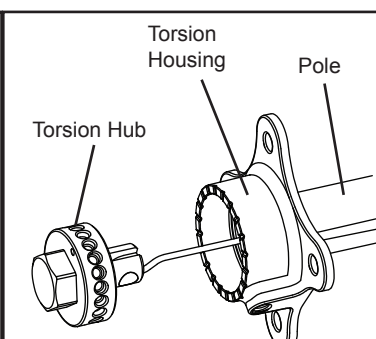

Fig. 10
16. Insert assembled Torsion Hub with Torsion Spring into Torsion Housing and Pole until Torsion Hub is flush with Torsion Housing (Fig. 10).